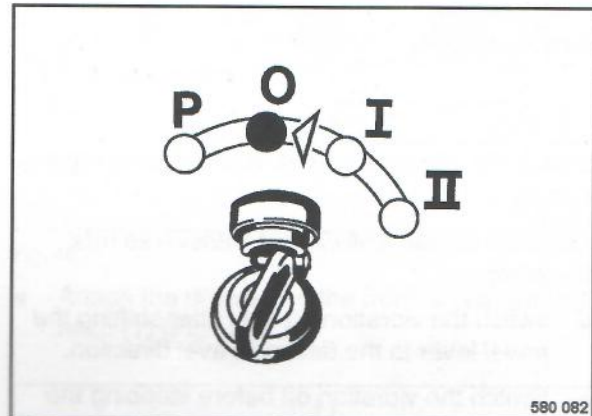

Fig. 41
- Turn the starter switch (Fig. 41) to position "O" or "P" and pull out the ignition key.